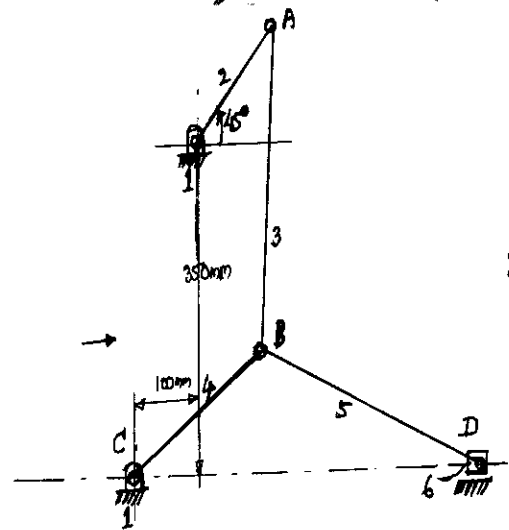

Fig.Q.4(b)
b. Locate all I-centers for the mechanism shown in Fig.Q.4(b). Find the velocity of the slider by I-center method $\omega_2 = 20 \text{ r/s CCW}$. Take $OA = 180\text{mm}$, $AC = 360\text{mm}$, $BC = 250\text{mm}$ and $BD = 540\text{mm}$. (15 Marks)